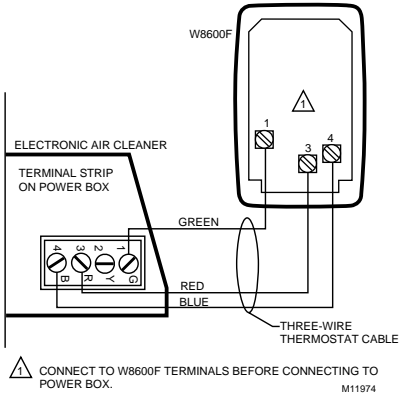

Fig. 4. Schematic for wiring W8600F to F50F.
- If a W8600F is used, first attach the wires to the air cleaner power box terminal board. See Fig. 4 and the W8600F installation literature, form 69-1200.
Choose a location for the W8600F if it is part of the installation. The W8600F is designed to mount next to your thermostat, or in any convenient visible area (such as utility room) where it can be seen as it monitors the air cleaner performance. It shares no electrical connections with the thermostat. To install the W8600F, see Fig. 4 and refer to the Installations Instructions, form 69-1200, included with the air cleaner monitor.